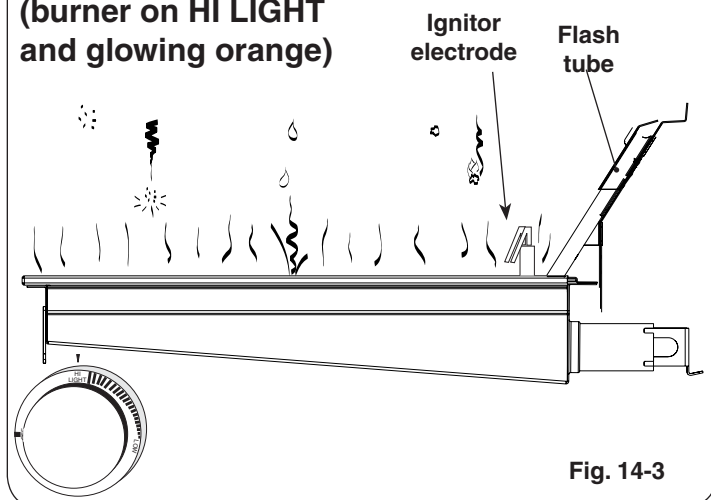

Fig. 14-3
- DO NOT place food on the cooking grid until the IR burner glows orange (Fig. 14-3). Drippings are heated and evaporate instead of sticking to and impairing burner function.